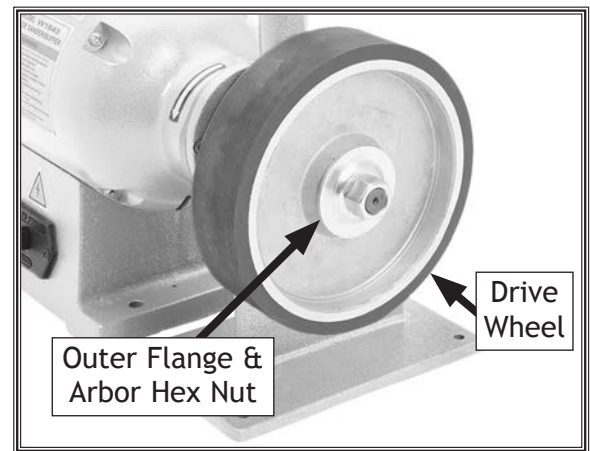

Figure 12. Drive wheel installed.
11. Slide the drive wheel onto the right-hand arbor with a drive wheel flange ($\frac{3}{4}$ " center bore) on each side, then secure it in place with the remaining $\frac{3}{4}$ "-16 arbor hex nut (see **Figure 12**).